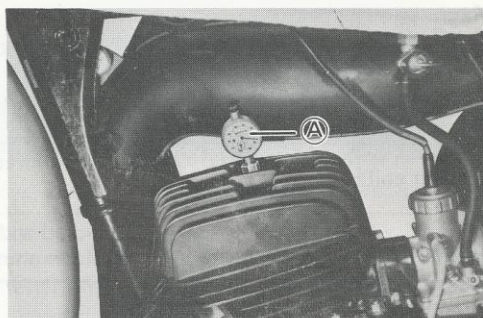

Fig. 117. Timing gauge installed on the cylinder head
- 1) Remove the spark plug, and install the timing gauge, Fig. 117, in the plug hole. Set the gauge to zero with the piston brought up to its exact T.D.C. position. This gauge is indicated as special tool (A).